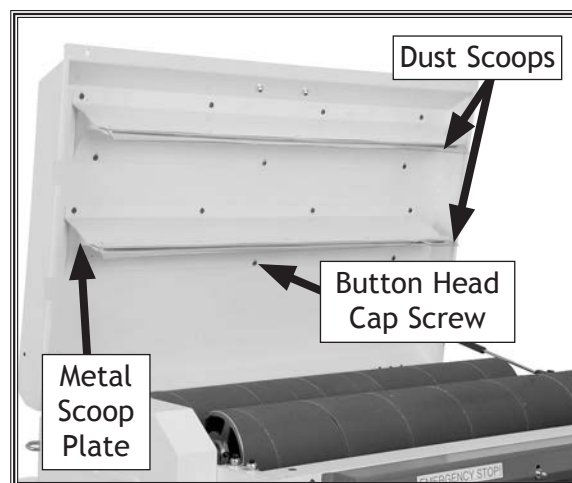

Figure 62. Location to adjust dust scoop.
3. Loosen the button head cap screws and acorn nuts securing a metal scoop plate to the top cover (**Figure 62**), move the scoop up a little, tighten the cap screws and nuts, close the top cover, and rotate the V-belt to see if the drum scrapes the scoop.